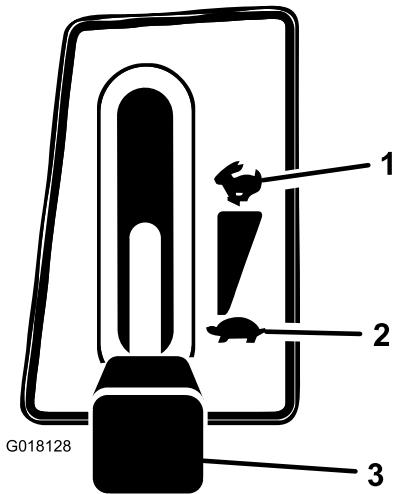

Figure 10
1. Push the blade control (PTO) to the Off position (Figure 10).
2. Shift the throttle lever to Slow (Figure 10).
5. After the engine starts, slowly shift the throttle lever to Fast and push in the choke lever (Figure 10). If the engine stalls or hesitates, shift the throttle lever back to Slow and pull out the choke lever for a few seconds and then shift the throttle lever to Fast. Repeat this step as required.
- Shift the throttle lever to Fast (Figure 10).